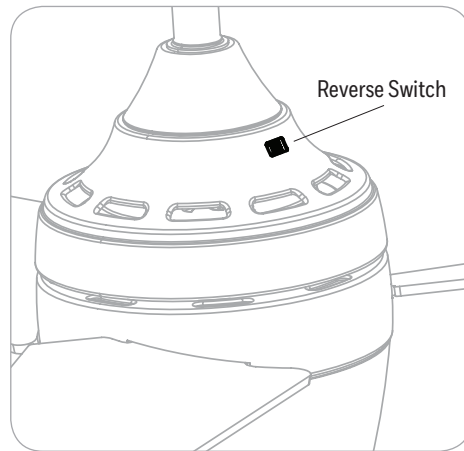

Figure 6.2
2. Use the reverse switch located on the motor assembly to optimize your fan for seasonal performance. **In warmer weather,** push the reverse switch left which results in downward airflow creating a wind chill effect. **In cooler weather,** push the reverse switch right which results in upward airflow that will help move hot air of the ceiling (Figure 6.2).